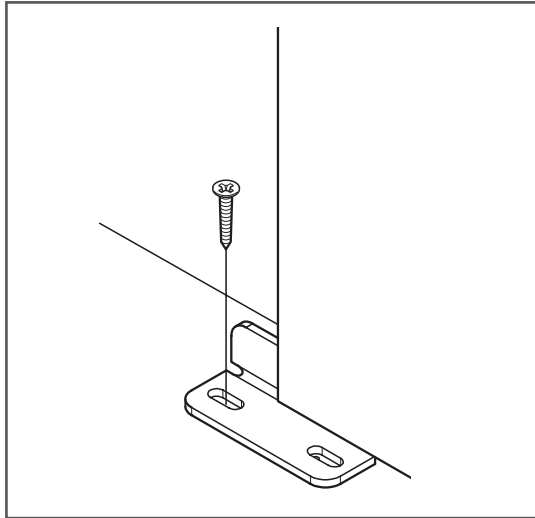

Figure 11
17. Position the Door Guide part way into the groove in the bottom of the panel or door (Figure 11).